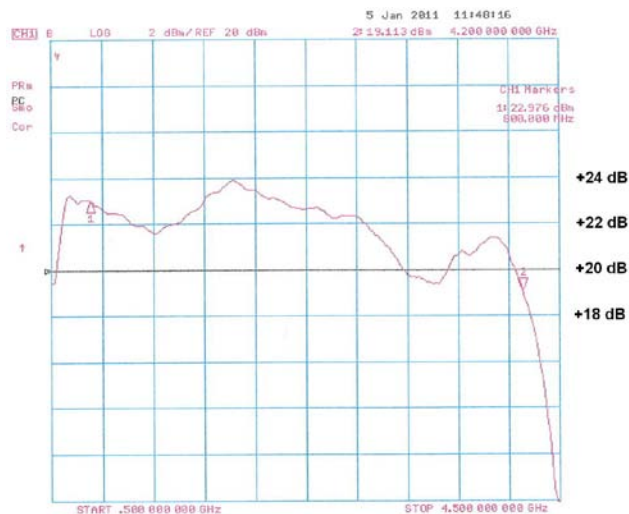

Figure 4-3. Typical Response: Input A4 Front Panel RF Output
- Remove the coaxial cable from the output of the A3 Quad Amp to the input of the A4 Two-Way Splitter. The typical response from the input of the A4 Two-Way Splitter to the RF Output connector on the unit's front panel is shown in Figure 4-3.